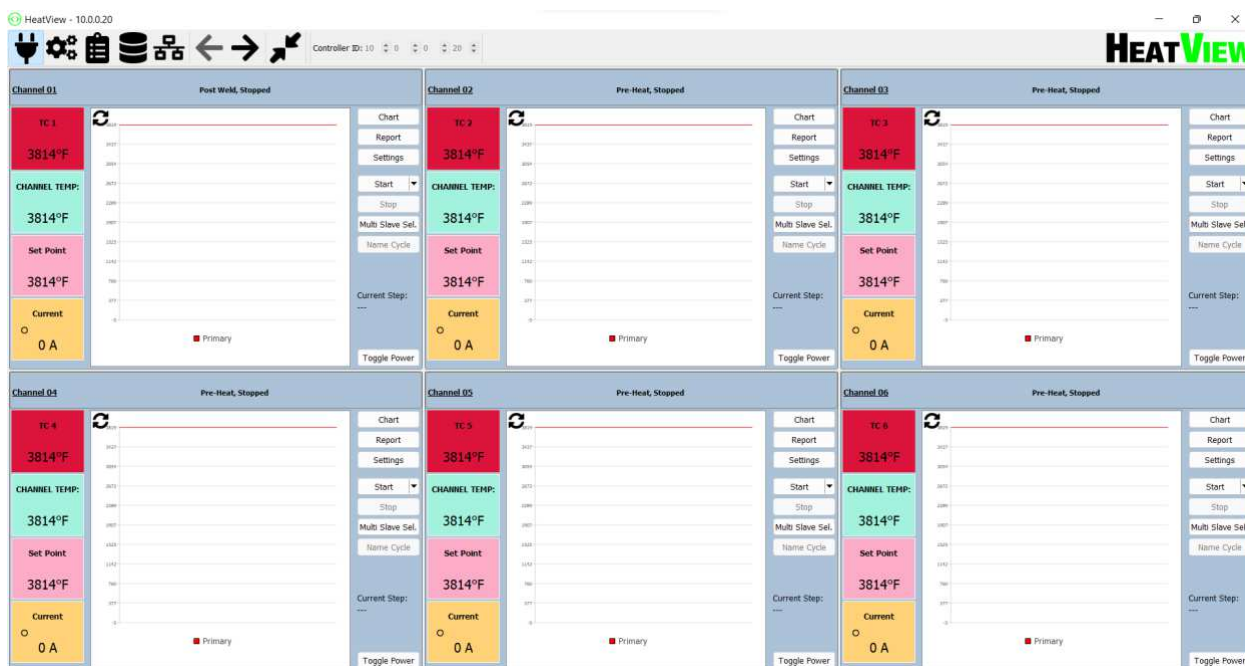

Figure 40: Connecting to The Controller – ‘Main Screen’, connected
5. If connection to the HEAT VIEW controller was successfully established, the ‘Main Screen’ of the application should now look similar to that shown in Figure 40 on the next page. You’ll notice that there is now channel data visible and there are many more options available to you. All of these will be explained in detail starting in Section 0 ahead.